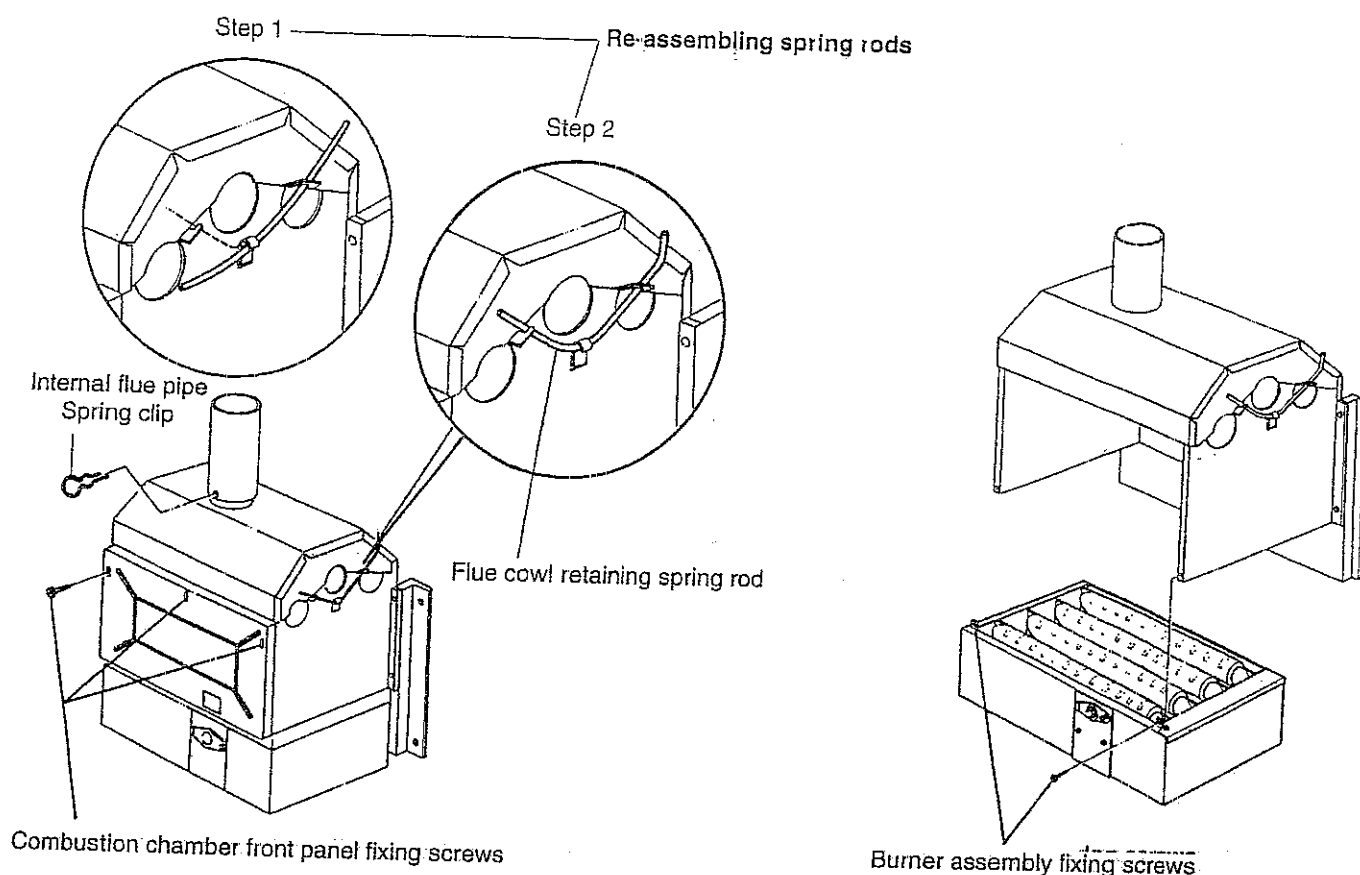

Fig. 49
- d) Remove combustion chamber front panel by unscrewing the two fixing screws (fig. 49)
- e) Unscrew the burner assembly fixing screws (fig. 49) and remove complete burner assembly (take care not to loose sealing cap on gas supply pipe).
- i) Remove flue cowl retaining spring rods by pushing up and outwards (fig. 49).
- j) Remove the spring clip securing the flue cowl to the internal flue pipe and push the flue pipe upwards (fig. 49) and latch it in the flue to keep it out of the way.
- 2.14 Remove the three screws securing the burner air guide plate (fig. 49).
- 2.15 Remove the two fixing screws securing the injector rail (fig. 49) and remove the injector rail complete with burners.